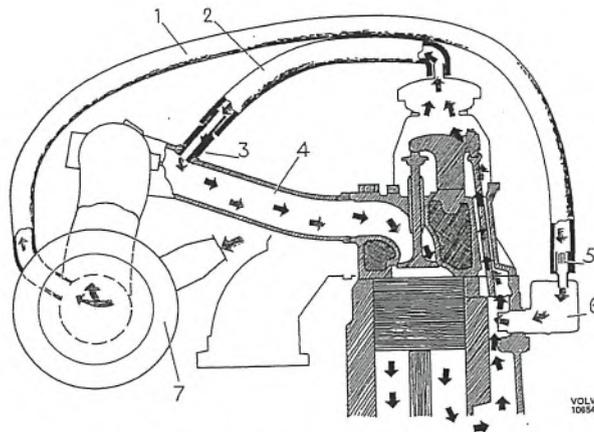

Fig. 2-13. Positive crankcase ventilation
Between the rocker arm casing and the inlet duct there is a hose (2, Fig. 2-13). It is connected to the intake manifold by means of a calibrated nipple (3). (This nipple should be cleaned every 40 000 km = 24 000 miles.) Between the oil trap, which is connected to the crankcase, and the air cleaner there is a hose (1) connected for the fresh-air supply. At the connection to the oil trap there is a flame guard (5), which consists of a metal filter. The partial vacuum which arises in the inlet duct when the engine is running, brings about a partial vacuum in the rocker arm casing and crankcase through the hose (2). Fresh air is supplied to the crankcase through the air cleaner via the hose (1).